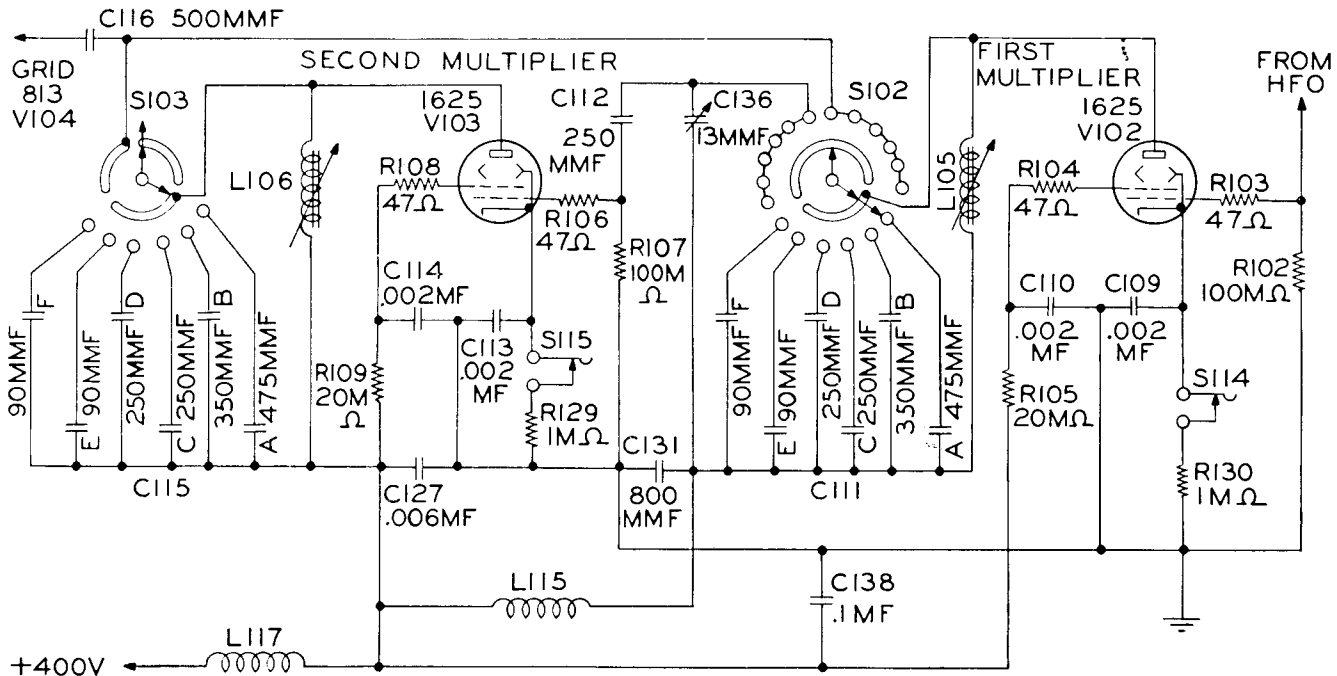

Figure 4-15. High Frequency Multiplier Circuit
c. MULTIPLIER CIRCUITS. (*figure 4-15.*)
(1) To obtain RF output in the frequency range 2000 kc to 18,100 kc, the output of the HF oscillator must be multiplied from two to twelve times. The frequency multiplier stages which employ Type 1625 beam pentode tubes are inoperative when LF operation has been selected. The first multiplier tube, V102, may operate as a frequency doubler, tripler, or quadrupler. The second multiplier tube, V103, operates only as a frequency tripler. The number of times that the frequency of the output of the HF oscillator tube, V101 is multiplied is dependent upon the position of first multiplier range switch S102 and second multiplier range switch S103. The position of the multiplier range switches is determined by Control "A" which has twelve HF positions and one LF position available. The twelve HF positions permit selection of any output frequency within the frequency range 2000 kc to 18,100 kc while the LF position permits the selection of any output frequency within the frequency range 200 kc to 1500 kc.
(2) The 13 positions of Control "A" and the frequency range covered by each are tabulated below: